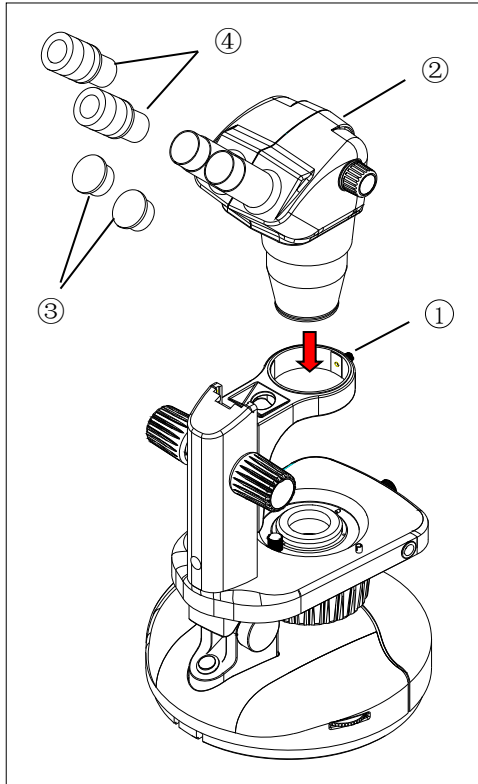

Fig. 1
2.2.1 Mounting zoom body (Fig. 1)
2.2.2 Mounting eyepieces (Fig.1)
Remove the eyepiece dust caps ③ and rotating the adjustable eyepieces ④ while insert them into the eyepiece sleeves until they stops, as Fig.1 shows. Keep your eyes at the correct distance from eyepieces, and make the microscope even more comfortable to use.